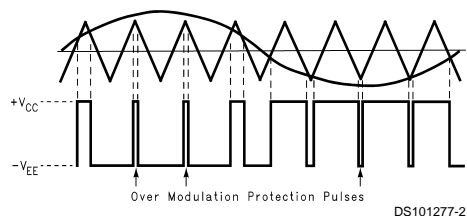

FIGURE 4. Over Modulation Protection
**Over-Modulation Protection:** The over-modulation protection is an internally generated fixed pulse width signal that prevents any side of the H-bridge power MOSFETs from remaining active for an extended period of time. This condition can result when the input signal amplitude is higher than the internal triangle waveform. Lack of an over modulation signal can increase distortion when the amplifier's output is clipping. Figure 4 shows how the over modulation protection works.